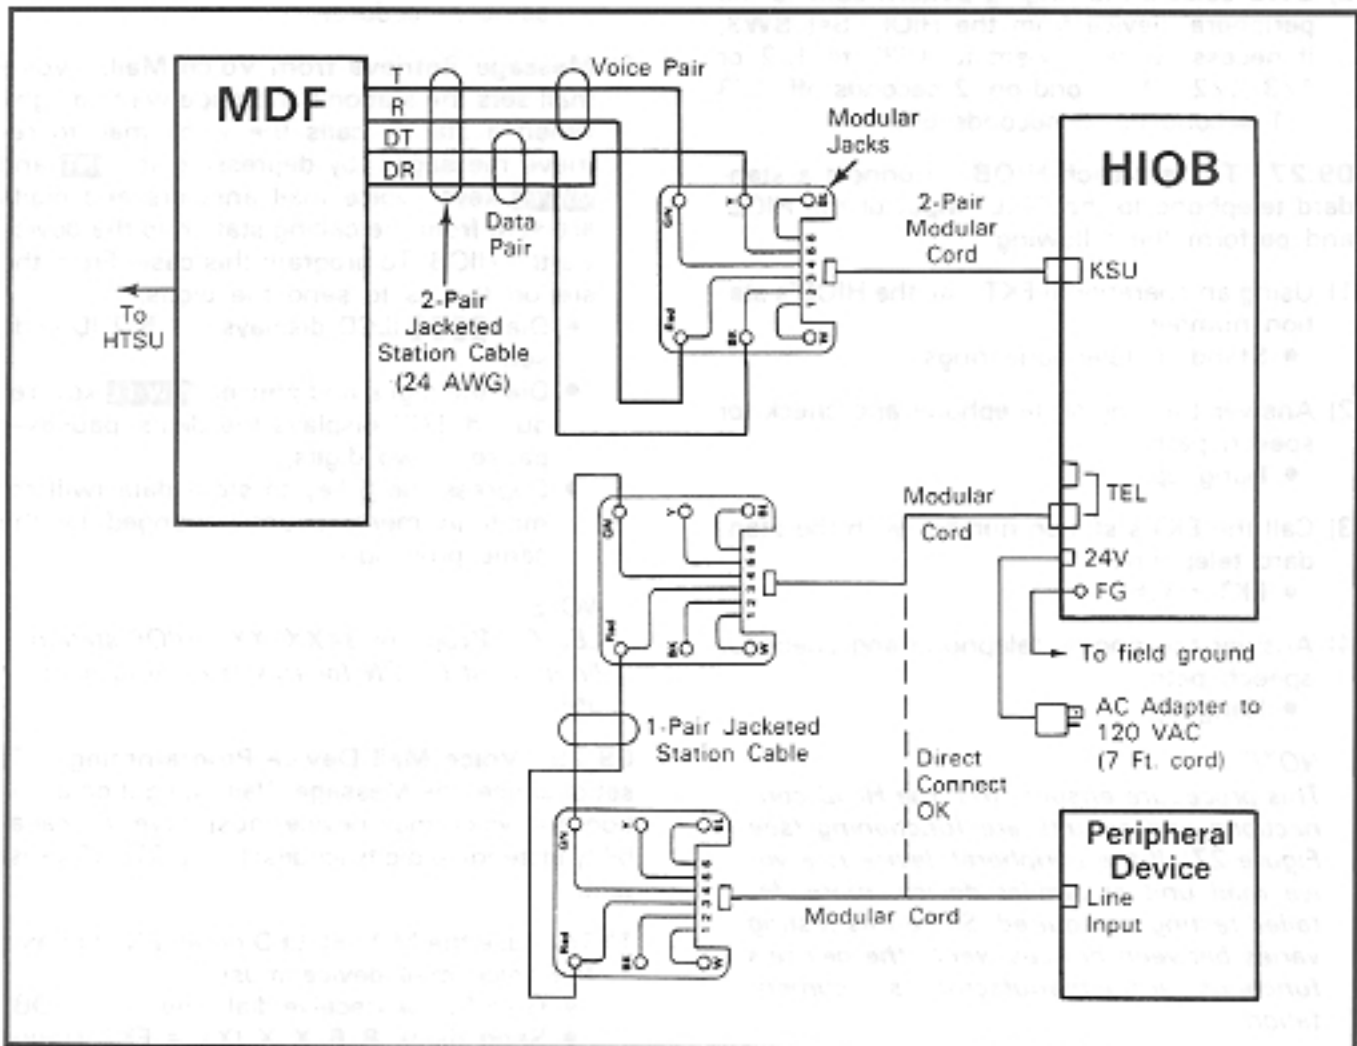

FIGURE 28—HIOB WIRING DIAGRAM
09.23 Cabling: Each HIOB is connected to a station line via 2-pair 24 AWG wiring (Figure 28). It is connected to the peripheral device via single- or 2-pair (only the tip and ring are used) wiring. The maximum distance between the HKSU and the HIOB is 650' (200 M). The loop limit between the HIOB and the device is 300 ohms (including the resistance of the device).
09.24 Power and Ground: To complete the HIOB installation, refer to Figure 28, and perform the following: